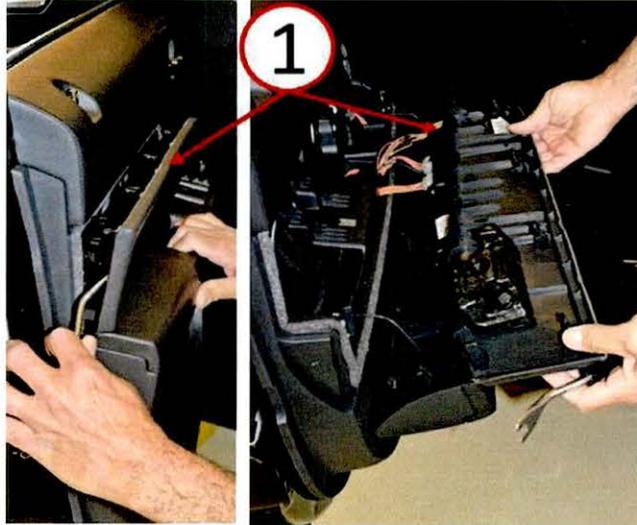

Fig. 1 Remove Door Bolster
1. Release the door bolster from the door(s) with noisy window glass. It is not necessary to remove the door bolster or disconnect the electrical connectors, bolster will be supported by the tether straps. For procedure steps to release bolster from door, refer to the detailed repair procedures available in: DealerCONNECT> TechCONNECT. (FRONT DOOR) 23 - Body> Doors - Front> PANEL, Door Trim, Bolster> Removal or (REAR DOOR) 23 - Body> Doors - Rear> PANEL, Rear Door Trim, Bolster> Removal (Fig. 1).